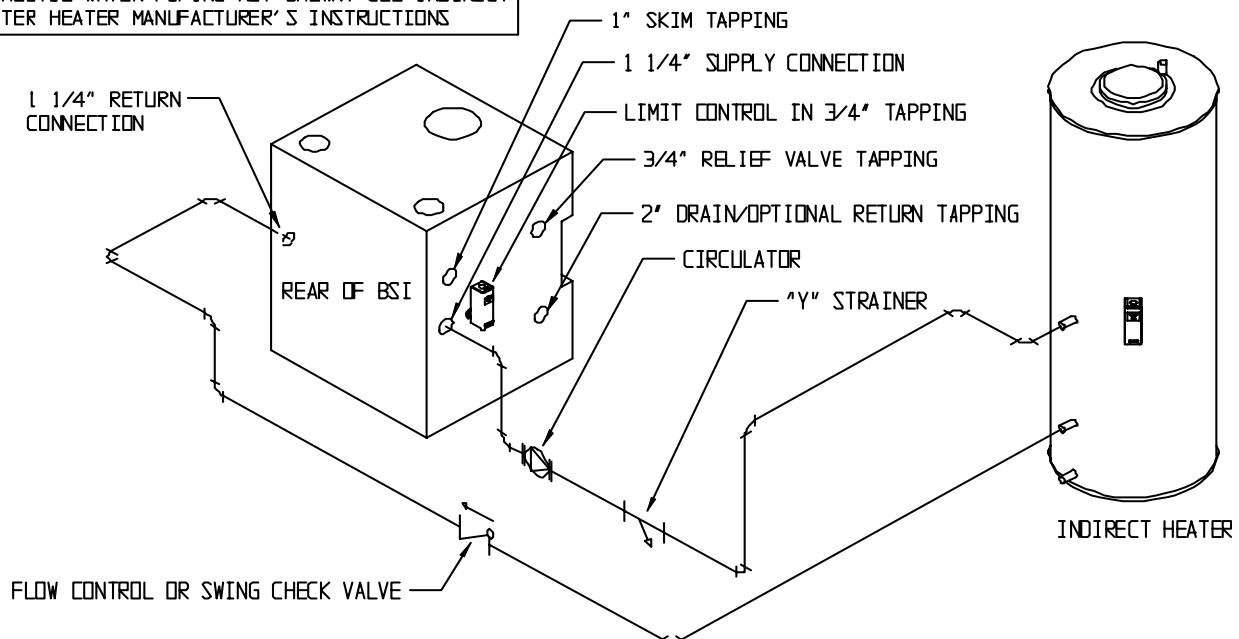

FIGURE 13: INDIRECT WATER HEATER BOILER-SIDE PIPING
1) Circulator - Mount the circulator as shown in Figure 13. The circulator should be located as low and as close to the boiler as practical. Do not install valves, or other devices having a significant pressure drop, between the boiler and the circulator inlet. All piping between the boiler and the circulator inlet should be 1", regardless of the size of the piping required in the rest of the system. See Figure 15 in Part X for wiring information.